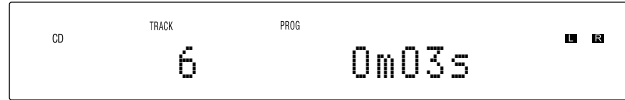

Figure 36
- To start playback of the just entered program, press the PLAY/PAUSE ►/|| Push-button. Refer to figure 36.